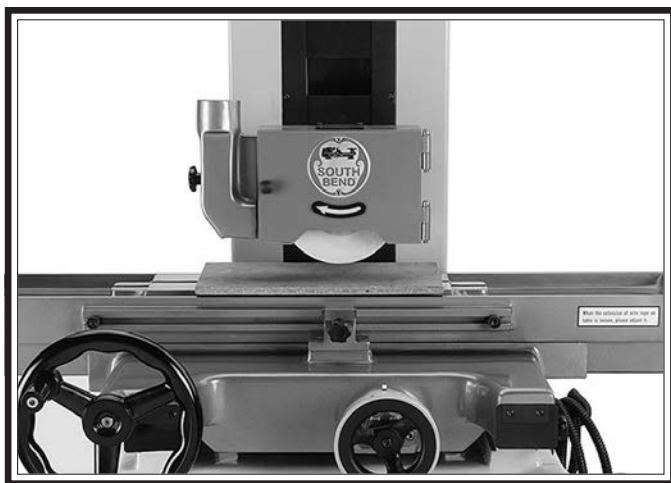

Figure 28. Protecting the table.
2. Place a sheet of plywood on top of table to protect it, as shown in **Figure 28**, and open the grinding wheel cover.